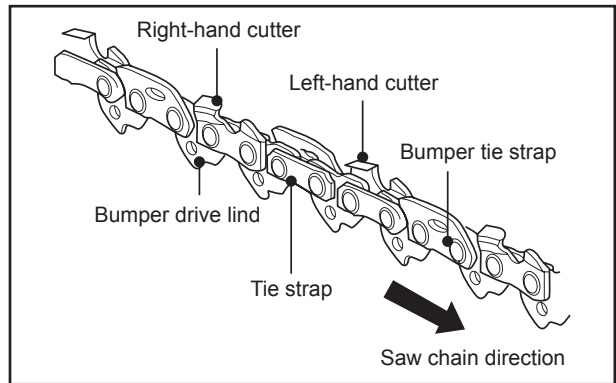

Fig. 15a
1. Have the saw chain (3) sharpened professionally at an authorised service centre or sharpen the chain yourself by using a proper sharpening kit. Also observe the sharpening instructions supplied with the sharpening kit.
2. The height difference between the tooth and the ridge is the cutting depth. When sharpening the saw chain (3) you have to consider the following points (Fig. 15a).